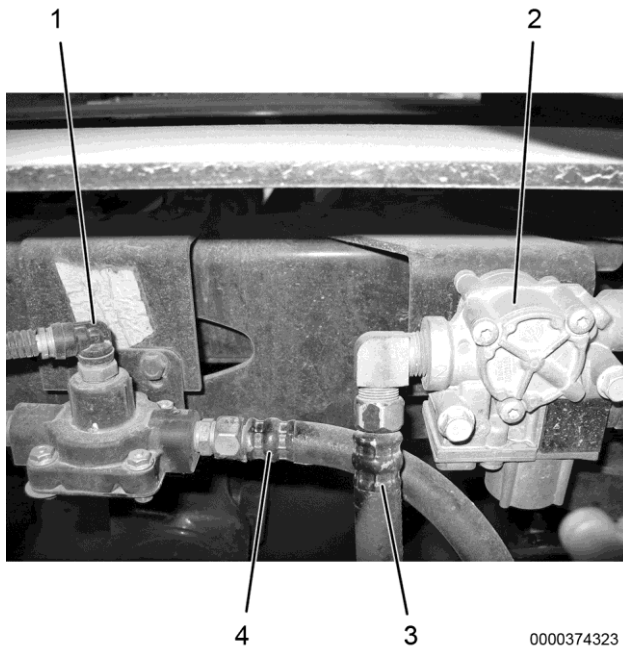

Figure 3. Valve and Hose Removal
10. Disconnect chamber spring brake hose (Figure 3, Item 4) from quick release valve (Figure 3, Item 1).
11. Disconnect chamber service hose (Figure 3, Item 3) from Antilock Brake System (ABS) modulator valve (Figure 3, Item 2).